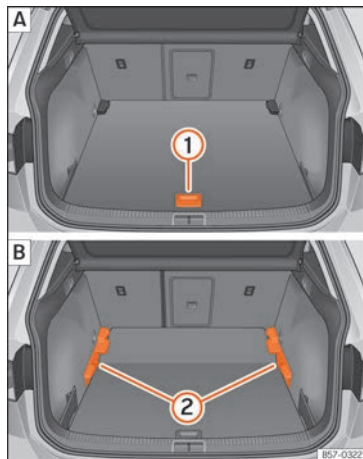

Fig. 168 Variable luggage compartment floor:
- To move from the low position to the high position, lift the floor using the handle >>> Fig. 168 **1**, and pull it back until the front of the floor has fully passed the supports **2**.
- To move from the high position to the low position, lift the floor using the handle >>> Fig. 168 **1**, and pull it back until the front of the floor has fully passed the supports **2**.
- Lift the variable floor in the high position using handle >>> Fig. 168 ①, pull it up and push it towards the backrest of the rear seats until it folds along the hinge line and the movable part of the floor is resting on itself.
- To move from the high position to the low position, lift the floor using the handle >>> Fig. 168 ① and pull it back a little.
- Push the variable floor towards the folded rear seats with the handle ① using some downward pressure so that the moving part of the floor is flush with the backs of the rear seats.